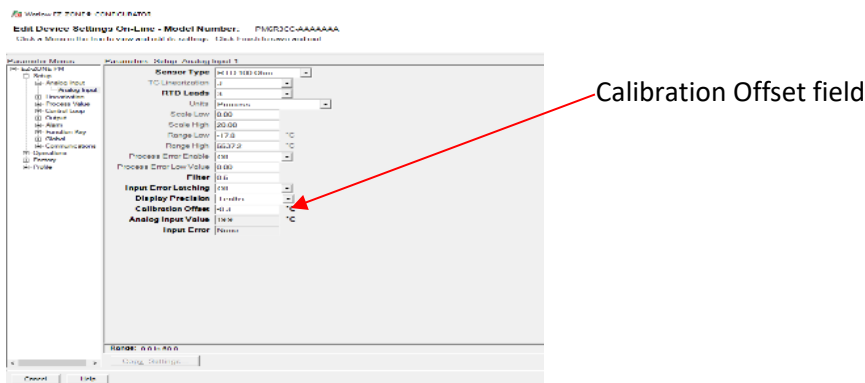

Figure 50: Calibration Offset Field in Watlow Configuration Software
11. In the **Parameter Menu** on the left side, click the plus signs to enlarge the **EZ-ZONE PM > Setup > Analog Input** and open the **Calibration Offset Field** screen, shown in Figure 50.
12. Calculate the difference between the measured temperature from the thermometer and $-30.0\text{ }^{\circ}\text{C}$. Modify the **Calibration Offset** field, shown in Figure 50, by entering the difference between the two numbers.